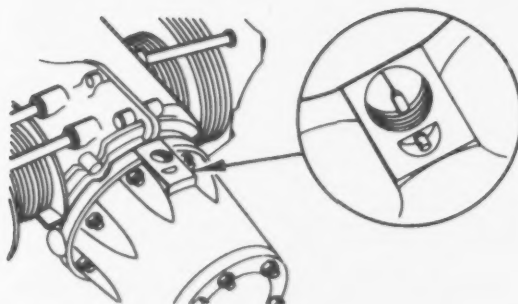

Figure 5-34. Engine timing marks
5-157. To position engine for magneto timing, a reference mark has been placed on the right gear and a pointer installed in the top of the nose reduction gear case. (See figure 5-34.) Remove plug in reduction gear case and turn engine in normal direction of rotation until No. 1 cylinder is on compression stroke and timing mark and pointer align. No. 1 cylinder will then be in firing position.
c. Rotate crankshaft in direction of rotation until timing mark on ring gear aligns with pointer. (See figure 5-34.)